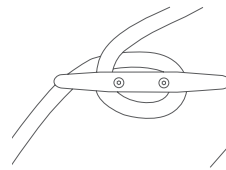

Fig 18 -
1. Make one full turn around the cleat in a clockwise direction and pull tight (Fig 18).